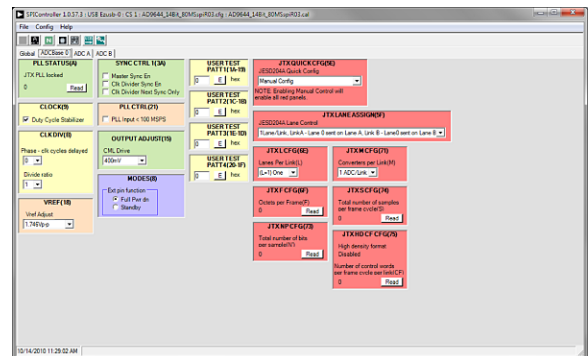
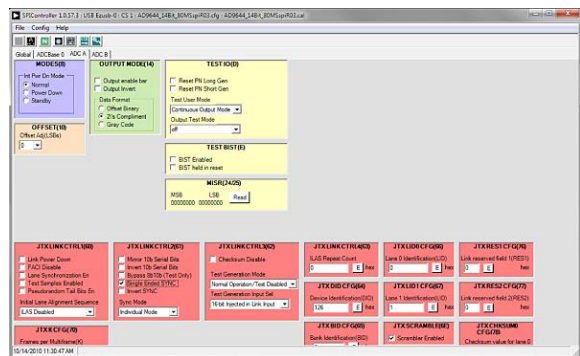

Figure 11. SPI Controller, CLKDIV(B) Box
Figure 12. SPI Controller, Example ADC A Tab
3. In the **ADCBASE 0** tab of the **SPIController** window, find the **CLKDIV(B)** box (see Figure 11). If using the clock divider, use the drop-down box to select the correct clock divide ratio, if necessary. See the AD9644 or AD9641 data sheet; the AN-878 Application Note, High Speed ADC SPI Control Software; and the AN-877 Application Note, Interfacing to High Speed ADCs via SPI, for additional information.
5. Note that other settings can be changed on the **ADCBASE 0** tab (see Figure 11) and the **ADC A** and **ADC B** tabs (see Figure 12) to set up the part in the desired mode. The **ADCBASE 0** tab settings affect the entire part, whereas the settings on the **ADC A** and **ADC B** tabs affect the selected channel only. Note that for the AD9641, only the **ADCBASE0** and **ADC A** tabs are available because the device is a single-channel ADC. See the AD9644 or AD9641 data sheet; the AN-878 Application Note, High Speed ADC SPI Control Software; and the AN-877 Application Note, Interfacing to High Speed ADCs via SPI, for additional information on the available settings.
6. Set the single-ended **SYNC** check box in the **JTX LINK CTRL2** box on both the **ADC A** and **ADC B** tabs (or on only the **ADC A** tab for the AD9641) as shown in Figure 12. This sets the JESD input syncs to operate in singled-ended CMOS mode for compatibility with the FPGA configuration.